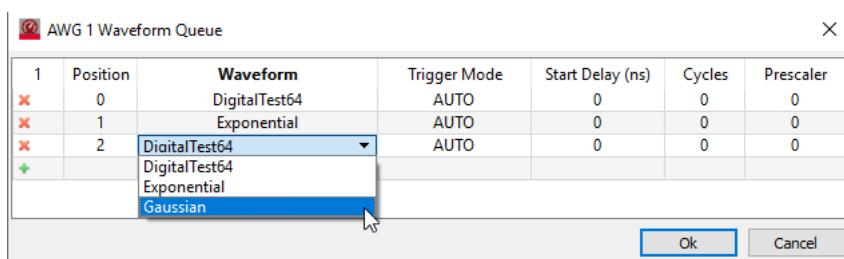

Figure 70 AWG Waveform Queue dialog box appearance after waveforms are added
- c **Waveform**—Indicates the waveform name as defined in the **Onboard waveform memory** dialog. If you click '+' to add waveforms on each row, it pulls the waveform name that appears in waveform memory register # 0 by default. To change the waveform type, double-click the cell in a specific row and select the waveform name from the drop-down list as shown in Figure 70.